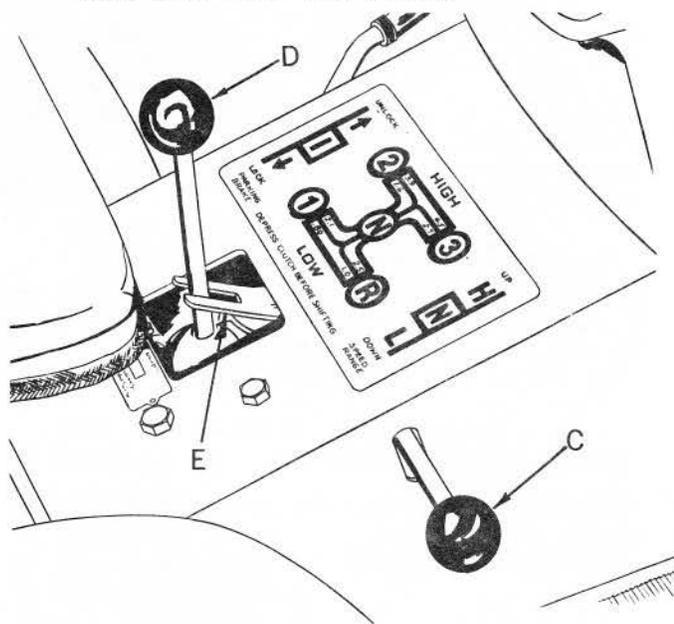

FIG. 9
2. Pull out choke control (B), to full choke position to start in cold weather.
3. Advance throttle control lever (C), to about 1/2 throttle.
4. This Tractor is equipped with two safety switches. One switch is located on the gear shift lever (D, Fig. 9, at point E). The other switch is located on attachment clutch lever (F, Fig. 18). The gear shift lever must be in neutral (center position). The attachment clutch lever must also be in disengaged (out), position for engine to start. Turn key (F), in ignition-starter switch clockwise to engage starter. When engine starts, release key. After engine starts, push in choke control (B), as engine warms up. Let engine warm up before applying load. CAUTION: Do not run starter continuously for more than 30 seconds at a time. If after several attempts, engine does not start, move throttle control (C), to fast position. Wait two minutes and try again.